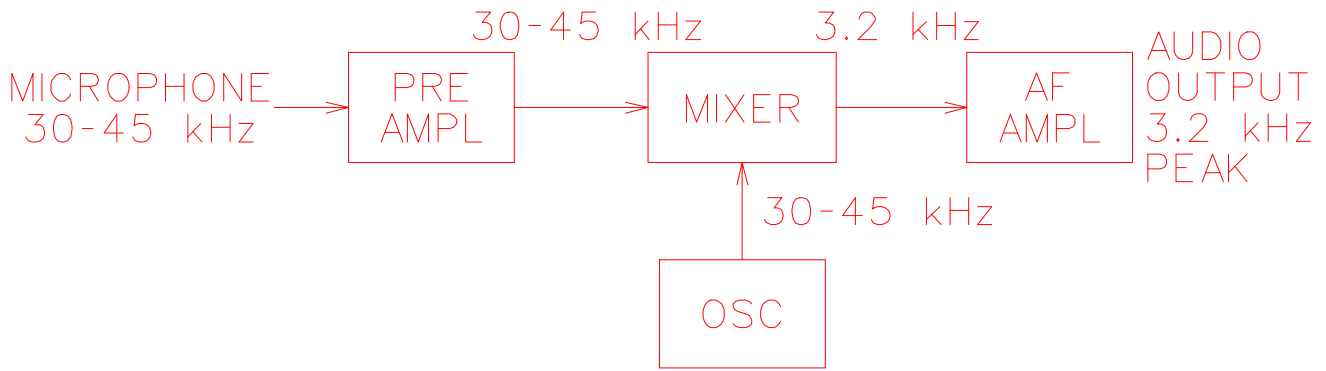
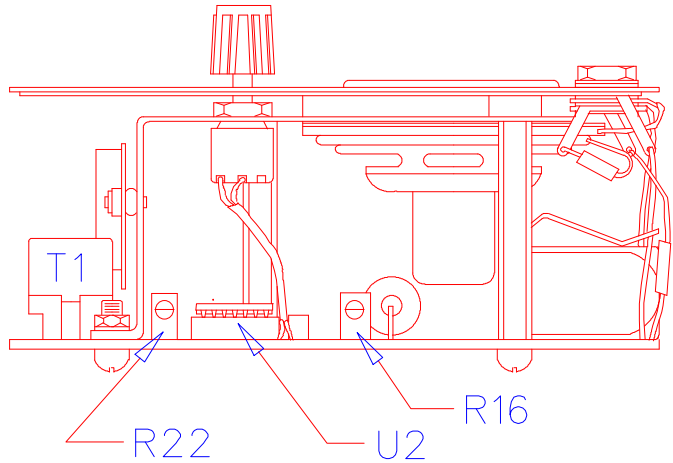

Figure 1.2. Test Set Block Diagram.
Figure 3.1. Tuning Components.
1.2.3. BLOCK DIAGRAM. Figure 1.2. is a block diagram and Figure 3.1. is the schematic diagram of the test set. The microphone detects a beacon signal which is amplified and fed into the mixer. The tunable oscillator frequency is also fed into the mixer. When tuned above or below the incoming signal, the difference frequency is the resultant output from the mixer, and will be in the audio range when the difference is within 1000 to 3000 Hz. When both frequencies are the same, the difference frequency is zero, hence no output from the mixer. The signals coming out of the mixer are amplified by the audio amplifier, where most of the gain of the test set is provided.